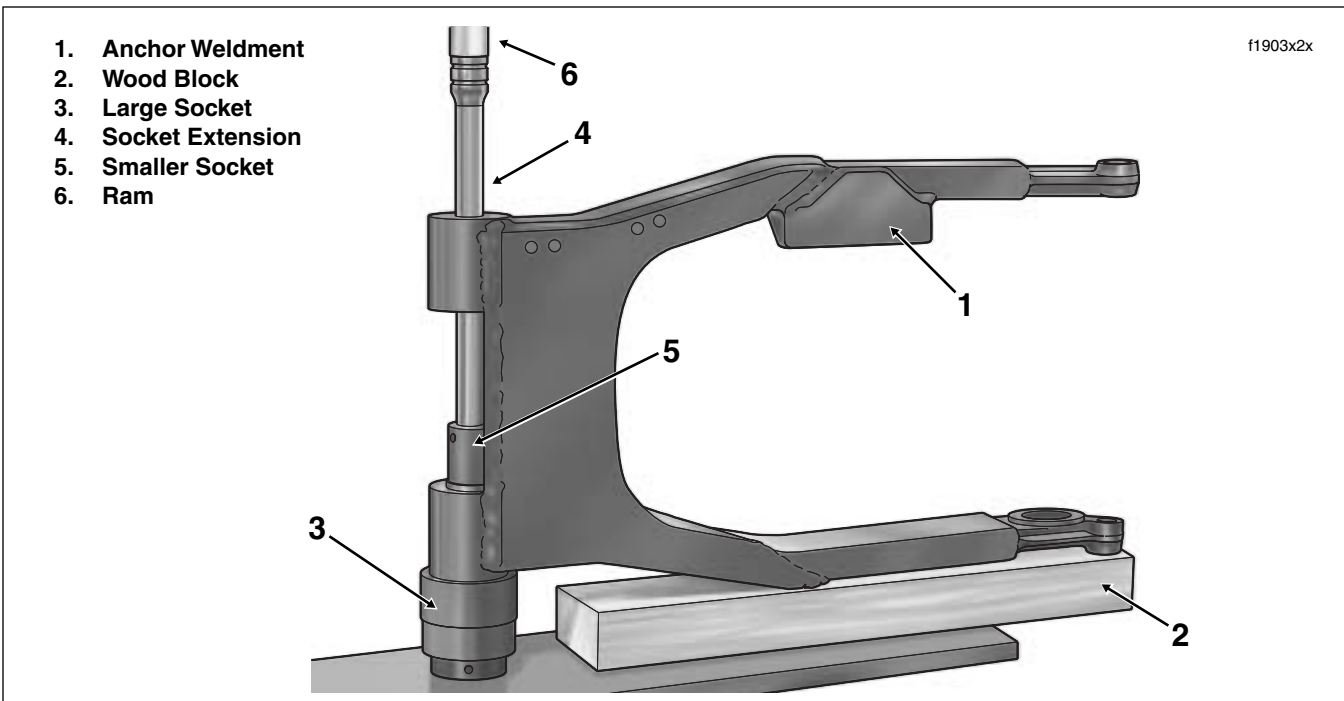

Figure 2-97. Press Out Drive Side Bearing
3. Support the swingarm with a block of wood and a large socket as shown in Figure 2-97. Verify that assembly is square and the bearing bore is completely vertical.